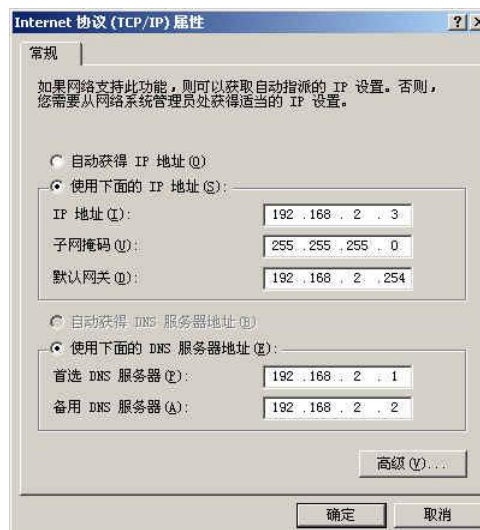

Figure 5.7 TCP/IP properties
Select "Internet Protocol (TCP/IP)" under "This connection uses the following (D):" on the "General" page. Click Properties. The window shown in Figure 5.7 appears.